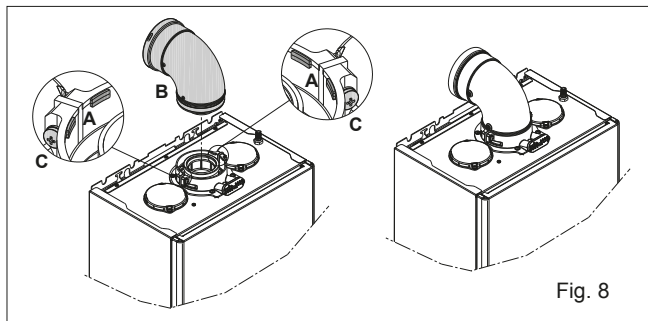

Fig. 8
**NOTE (Fig. 8):** The appliance incorporates a 'click-fit' flue connection. Ensure that both screws 'C' on the 'click-fit' have been slackened off. Ensure that the connector is correctly aligned